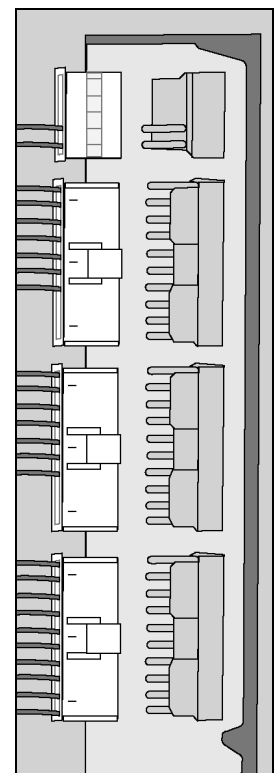

Figure 5: Plug Detail
7. Plug the remaining small white "Neon Lights" connector into the smallest socket. Notice that this plug goes in "flipped" compared to the other molex connectors. See Figure 5.